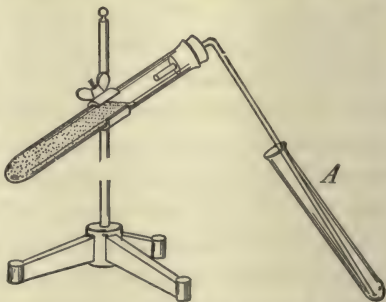

FIG. 31. — Making carbon dioxide from marble and hydrochloric acid.
**How to obtain carbon dioxide.** — There are several ways in which carbon dioxide can be produced commercially, but for laboratory use, the simplest way is to mix powdered marble, or chalk, and hydrochloric acid in a test tube, and to collect the effervescing gas as shown in Figure 31. The escaping carbon dioxide is heavier than air, and hence it settles in *A*. The substance which is left in the test tube after the gas has